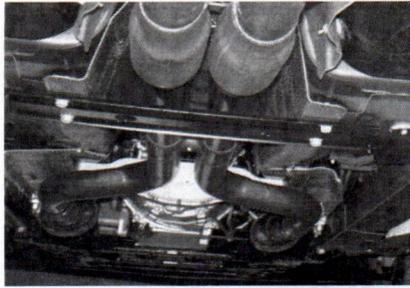

Figure 1
Refer to Figure 1.
3. Loosen the sleeve clamps on the factory exhaust located behind the catalytic converters using a 15mm socket. Using a screwdriver pry back the tabs on the clamps. **Refer to Figure 1.**